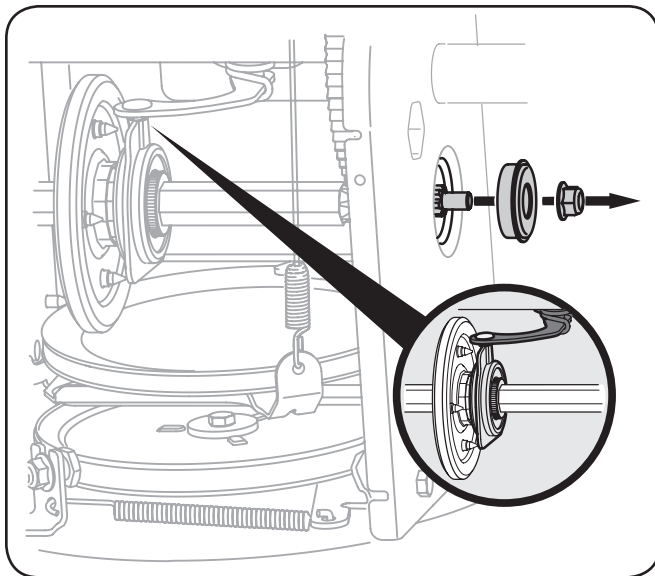

Figure 7-9
- Carefully remove the hex nut which secures the hex shaft to the snow thrower frame and lightly tap the shaft's end to dislodge the ball bearing from the right side of the frame. See Figure 7-9.
NOTE: Make sure the shift lever pin is in place in the bearing housing. See Figure 7-9 inset.